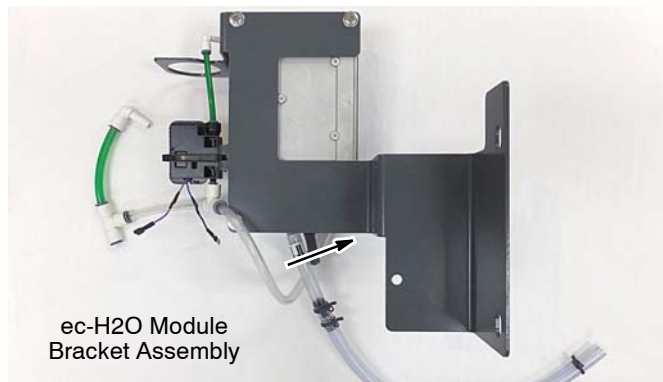

Fig. 12
1. Install the ec-H2O module bracket assembly to machine as described in following steps (Figure 12).